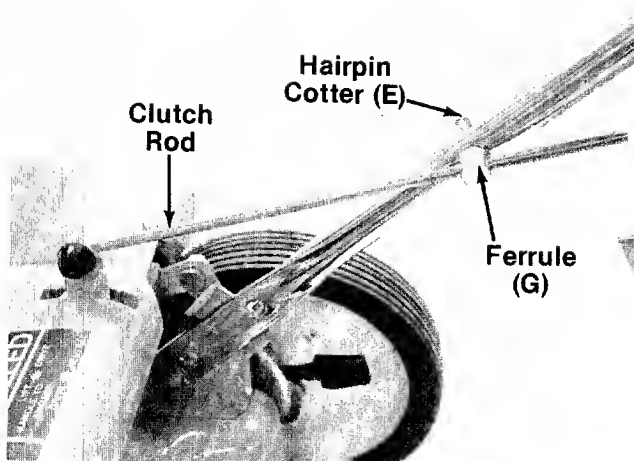

FIGURE 10.
17. Thread the ferrule (G) onto the threaded end of the clutch rod a few turns.
18. Raise the mower handle slightly and thread the ferrule onto the clutch rod until the ferrule lines up with the hole in the lower handle. Secure ferrule in handle with hairpin cotter (E) as shown in figure 10.
1. Remove the cotter pin. See figure 10.